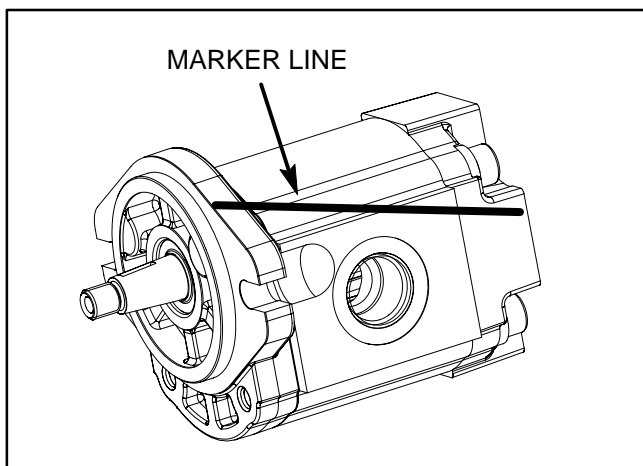

Figure 72
2. Use a marker to make a **diagonal** line across the front flange and body for assembly purposes (Fig. 72).